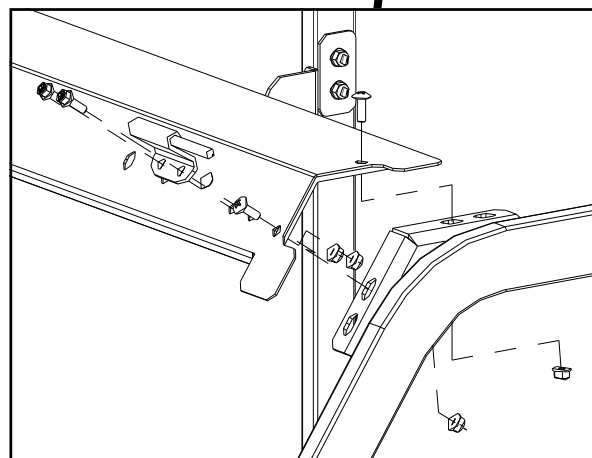

Fig. 4.2 (Roof Hinge Installation)
4.2. Install left side roof hinge pin as shown in Fig 4.2. Snug up the bolts. *Note: The left roof hinge pin will be installed during roof installation at step 12.*